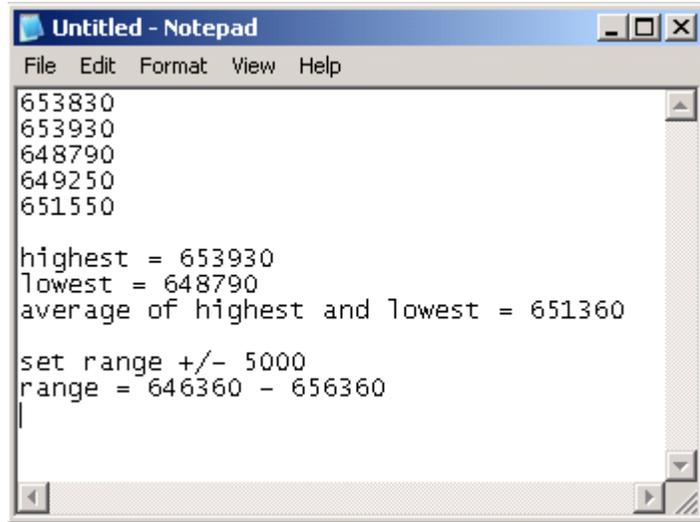

Figure 81 Record the average focal value in Notepad.
9. Repeat steps 4 to 8 for the top right, bottom left, bottom right, and center of the slide. The range of these values should not exceed 5000 units. Calculate the average value of the highest and lowest spots and record this value in Notepad (see Figure 81 on page 117).